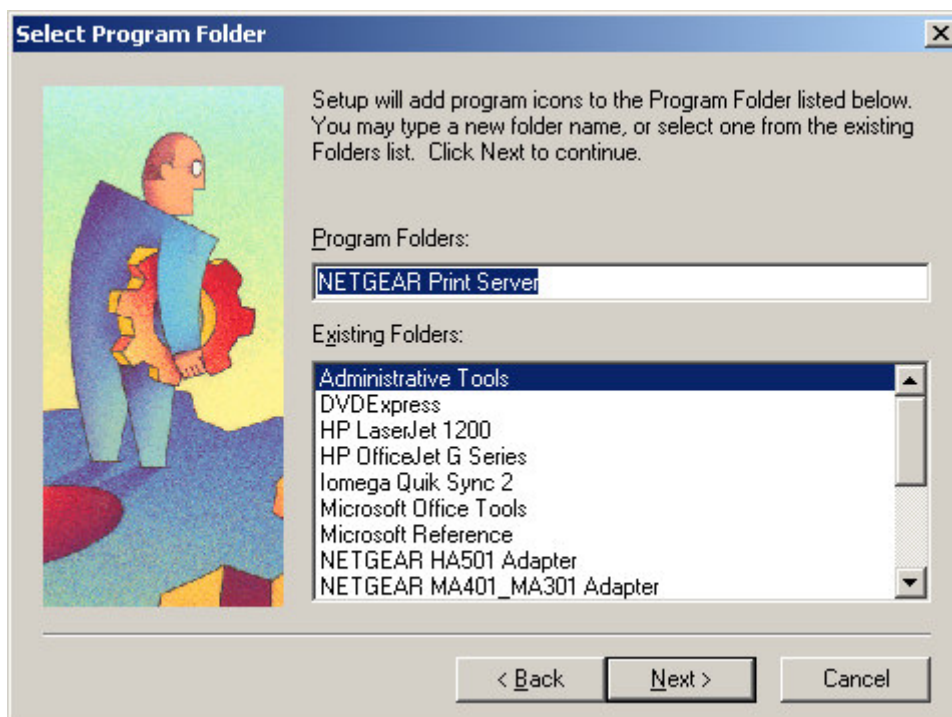
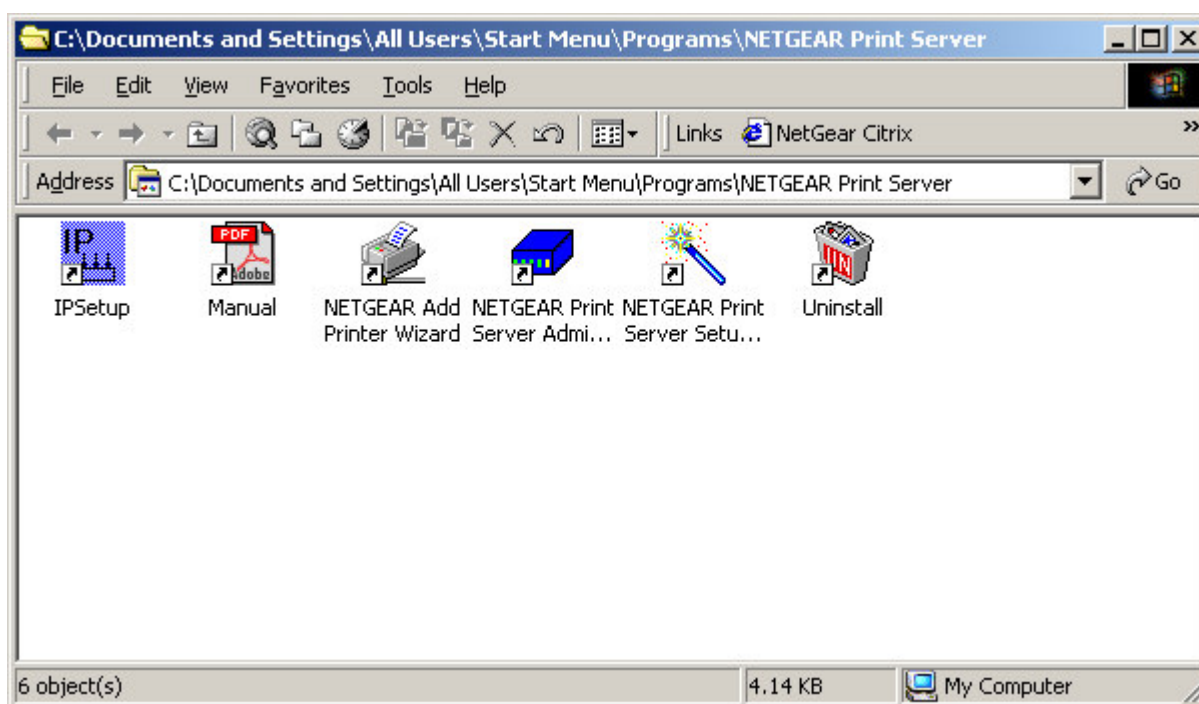

Figure 4-5 Program Folder
Figure 4-8 NETGEAR Print Server
1. Double-click on the desktop icon, as showing Figure 4-8, that you named the group in the previous section, Figure 4-5.